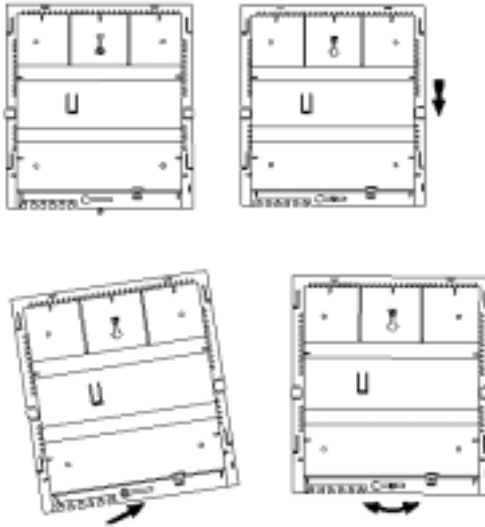

Figure B-4
- 6) Hang the cabinet on the wall by placing the two pear holes at the back of the cover over the screws (see Figure B-4).